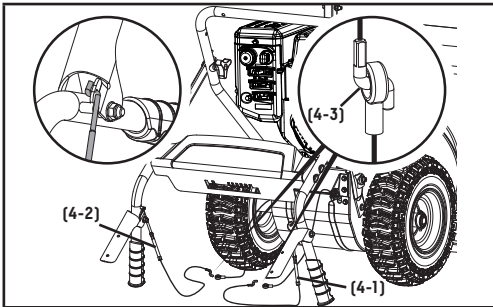

Figure 4
3. Insert wire clamps (4-3) together and pull to make sure they are connected. (Fig. 4).